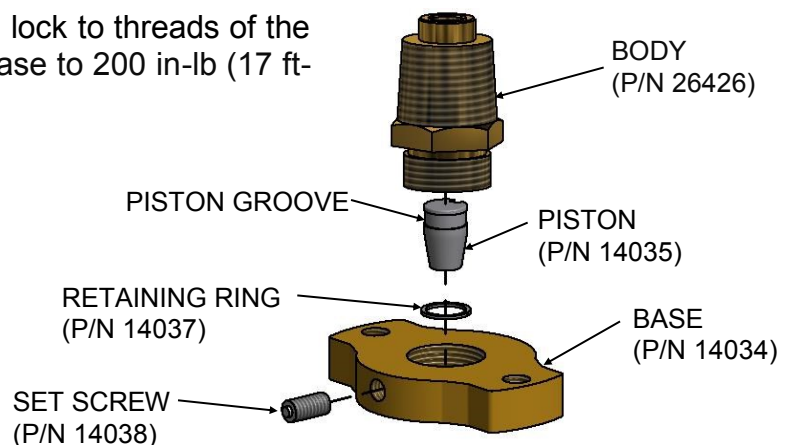

Figure 1
Actuator Disassembly (See Figure 1):
Actuator Inspection (See Figure 1):
Actuator Reassembly (See Figure 1):
Control Head Removal (See Figure 1):
Control Head Disassembly (See Figure 1):
Control Head Cleaning (See Figure 1):
Control Head Reassembly (See Figure 1):
- i. Remove the large retaining ring from the bottom of the Control Head (Figure 1).
- ii. With a 5/32" Allen wrench (or smaller) inserted through the cross-drilled hole in the tapered piston, pull the piston assembly out of the control head body (Figure 1).